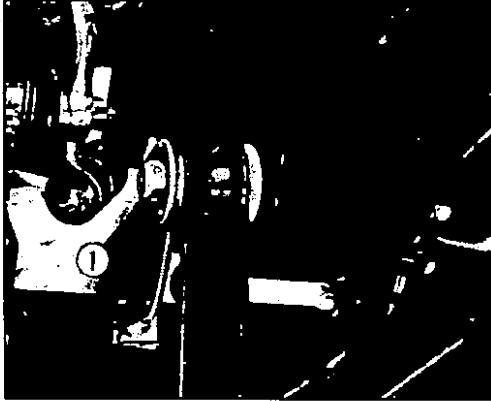

Fig. J.16 Removing the transverse link.
3. Remove the transverse link mounting bolt (Fig.J.16.) and detach the transverse link from the suspension member.